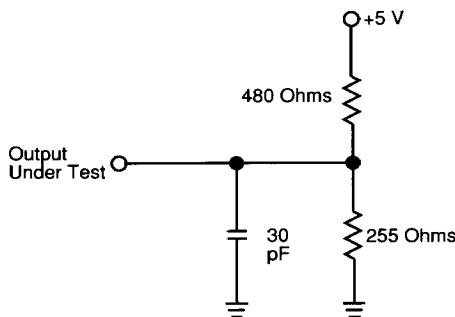
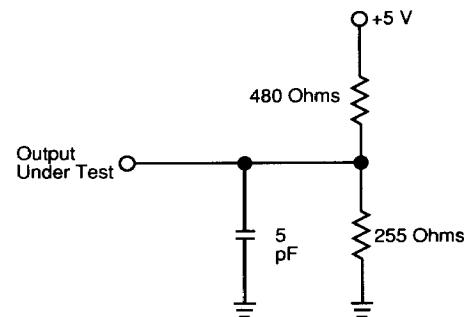

Figure 2. AC Test Load
Figure 3. AC Test Load
Output Load—As specified in Figure 2 or Figure 3 (includes jig and/or scope capacitance)
- (1) Test Conditions assume signal transition times of 5 ns or less, timing reference levels of 1.5V, Input pulse levels of 0 to 3.0V and output loading specified in Figure 2.
- (2) t_{HZOE} , t_{HZCE} and t_{HZWE} are tested with the load in Figure 3. Transition is measured ± 500 mV from steady state voltage.
- (3) At any given temperature and voltage conditions t_{HZCE} is less than t_{LCZE} for all devices. These parameters are sampled and not 100% tested.
- (4) The internal write time of the memory is defined by the overlap of \overline{CE} low and \overline{WE} low. All signals must be in their valid state to initiate a Write and any of the three signals can terminate the Write by going false. The Data Input Setup and Hold timing are referenced to the rising edge of the signal that terminates the Write.
- (5) Tested with \overline{OE} high (only for V63C70).
- (6) \overline{WE} is high for a Read cycle.
- (7) The device is continuously selected when \overline{OE} , $\overline{CE} = V_{IL}$ (only for V63C70).
- (8) Address is valid prior to or coincident with \overline{CE} low and \overline{CE} high transitions.
- (9) I/O will assume the High-Z state if $\overline{OE} \geq V_{IH}$ (only for V63C70).